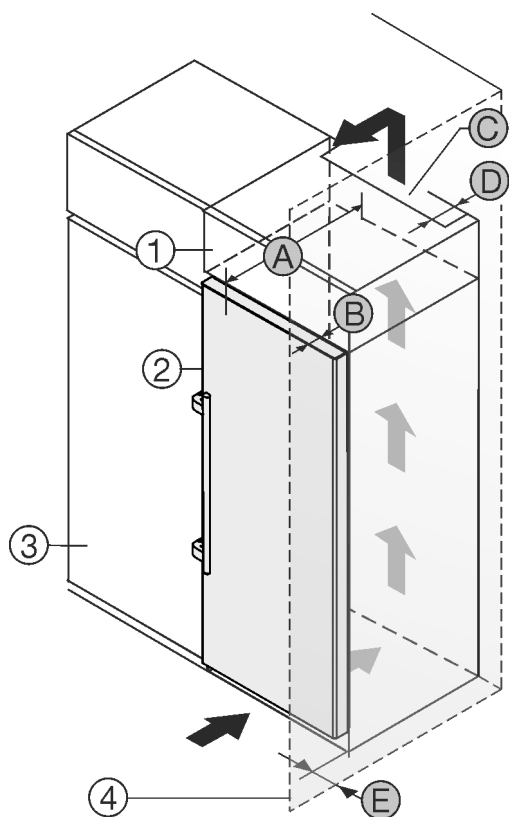

Fig. 1
There must be a ventilation shaft at the depth Fig. 1 (D) of the back of the top cupboard over the entire width of the top cupboard.
The cross section of the ventilation gap Fig. 1 (C) must be maintained below the ceiling.
If the appliance is set up with the hinges next to a wall Fig. 1 (4), the distance between the appliance and the wall must be at least 57 mm (2 1/4 in) . This is how far the handle protrudes when the door is open.
In order to be able to fully open the door, the appliance must protrude by the depth of the door Fig. 1 (B) from the front of the kitchen cabinet. Regardless of the depth of the kitchen cabinets Fig. 1 (3) and use of wall spaces, the appliance can protrude further.